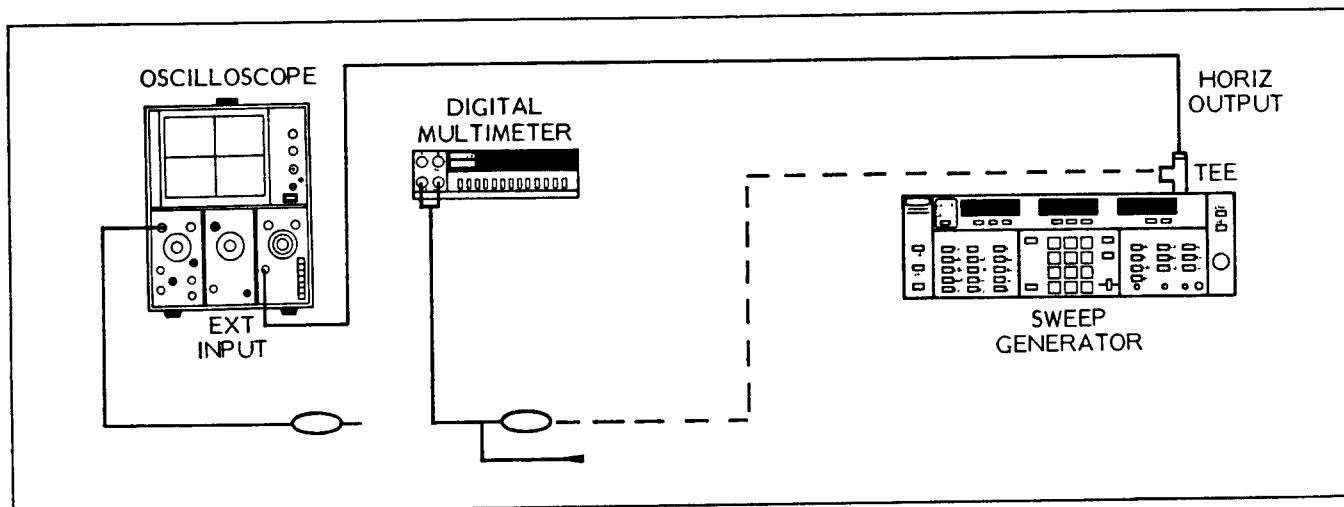

Figure 5-5. Test Equipment Setup for A2 Ramp Generator Adjustments
4. Replace the existing Figure 5-5 with the new Figure 5-5 below.